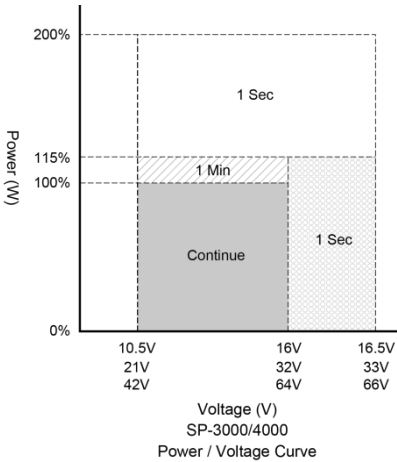
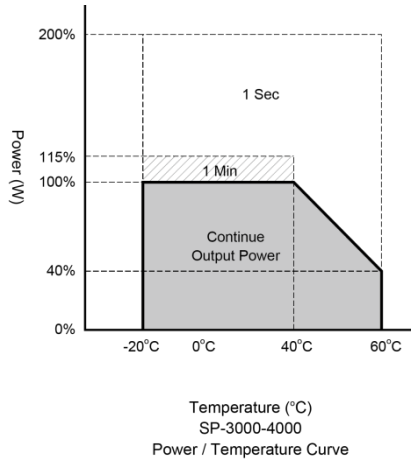

Figure 3. SP-3000/4000
Figure 4. SP-3000/4000
- ① Voltage range : Please refer to Figure 3
- ② Normal load Condition : Vin =12.5V/25V/50V, Vo=200/220/230/240 VAC 80% load (PF=1.0)
- ③ Operating temperature : Please refer to Figure 4
- ④ **Warning** : This is a class A product. In a domestic environment this product may cause radio interference in which case the user may be required to take adequate measures.
- ② Normal load Condition : $V_{in}=12.5V/25V/50V$, $V_o=100/110/115/120$ VAC 80% load (PF=1.0)
- ② Normal load Condition : Vin =25V/50V, Vo=200/220/230/240 VAC 80% load (PF=1.0)